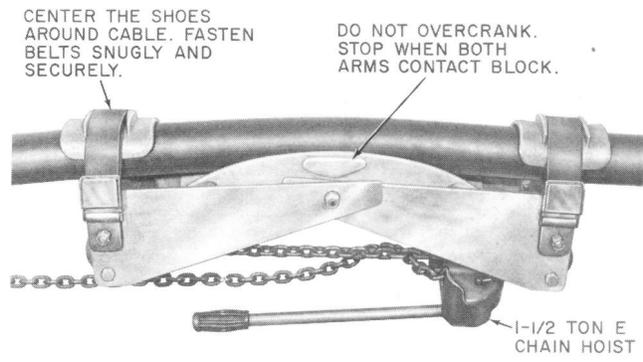
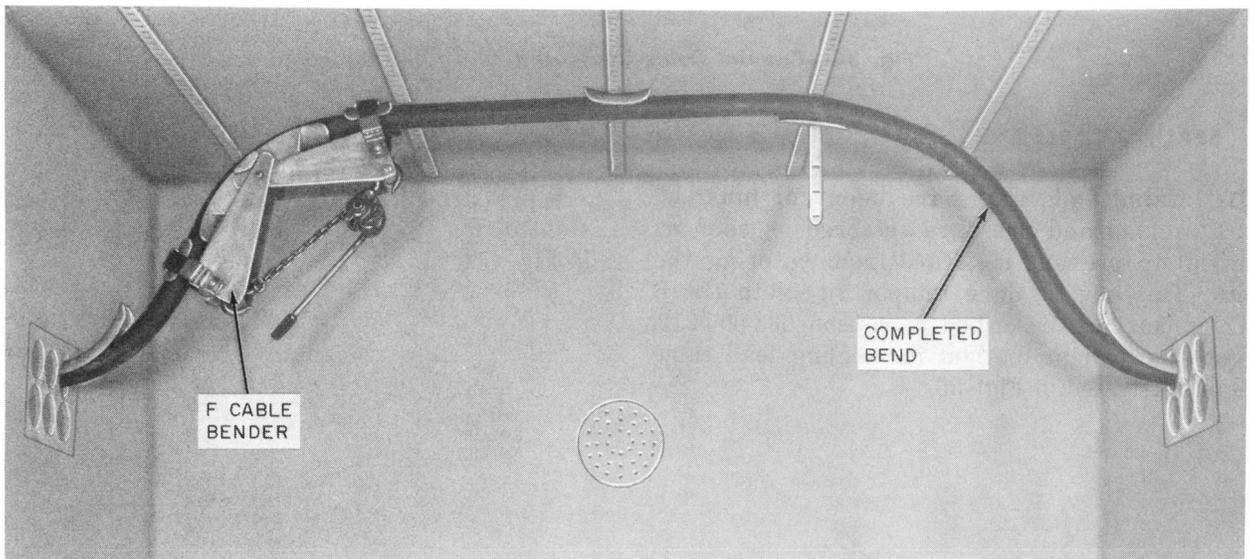

Fig. 32—F Cable Bender Positioned on Cable
Fig. 33—Final Racking Shape Obtained With F Cable Bender
(9) Complete the cable bending using the F cable bender. Position the cable bender on the cable (Fig. 32), engage the chain hoist on the tool, and take up on the hoist. Complete bends at both ends of the manhole to obtain final rack shape shown in Fig. 33. Remove the bender and support the cable with cable hooks of the required size (Fig. 34). The duct shoes may be removed.